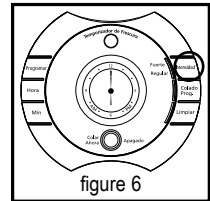

figure 6
2. To enjoy a more full flavored cup of coffee, press the Brew Strength “Intensidad” button once. (Figure 6). The strong “Fuerte” brew strength light will turn on. The coffee maker will remain in the brew strength you have selected until you change it back to regular “Regular” strength by pressing the brew strength button or until you unplug the unit.